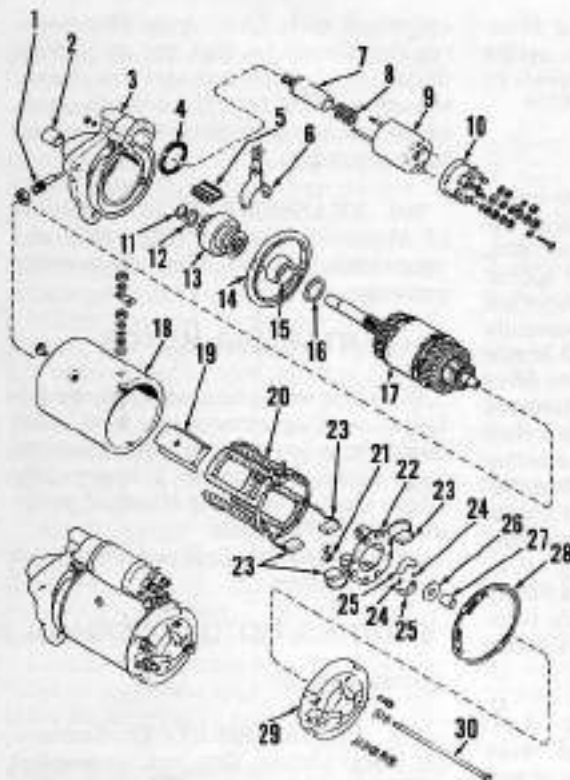
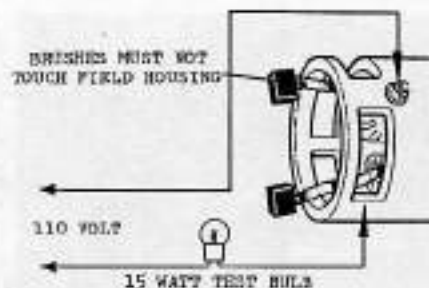
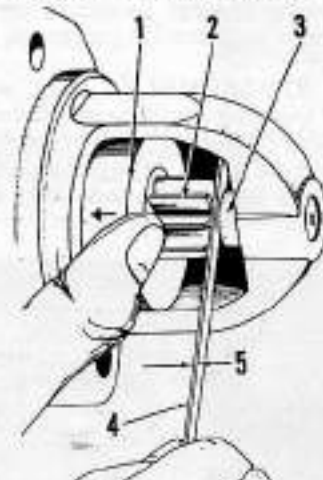

Fig. 110—Exploded view of typical Lucas starter assembly. Note construction may vary slightly according to model, but basic design remains the same.
Fig. 112—Brushes must not touch housing and insulation at terminals must be good when checking field coils. Refer to paragraph 205.
Fig. 114—Measure pinion clearance with a feeler gage as shown. Refer to paragraph 209 for specifications.
**204. DISASSEMBLY.** To disassemble Lucas starter, first remove solenoid assembly and copper link connecting solenoid to starter. Remove through-bolts (30—Fig. 110) and end cover (29). Use caution to avoid losing brake shoes (25) and springs (24). Remove brushes (23) from brush boxes and remove brush holder (22). Inspect brush springs (21) and renew as needed. Remove field housing (18). Remove eccentric pin (1) and remove drive end housing (3). Push thrust collar (12) off of snap ring (11) and remove snap ring and thrust collar. Remove starter drive (13), intermediate support (14) and shims (16). Note thickness and number of shims (16) for reassembly. Inspect bushings (2, 15 and 27) for excessive wear or damage. Renew as required. Soak new bushings in oil for 24 hours prior to installation.
**207. FIELD COIL TEST.** Field coil insulation may be tested using a 110 volt, 15 watt AC current test light connected as shown in Fig. 112. Brushes must not touch field housing and power terminal insulation must not allow voltage to short to housing. If test light comes on and brushes are not touching housing and insulation is good at power terminal, there is a short between field coils (20—Fig. 110) and field housing (18). Repair or renew as necessary.
Armature end play must be 0.127-0.635 mm (0.005-0.025 inch) and is controlled by thickness of shims (16—Fig. 110) between intermediate support and armature core.
Pinion clearance is set by connecting a 6 volt battery to solenoid on assembled starter to activate solenoid. Push back lightly on starter drive clutch (1—Fig. 114) to remove any free play. Measure with a feeler gage as shown in Fig. 114. Turn pivot bolt (1—Fig. 110) to adjust clearance and when set, lock pivot bolt in place with locknut. Standard duty starter pinion clearance must be 0.127-0.381 mm (0.005-0.015 inch) and heavy duty starter pinion clearance is 0.127-1.143 mm (0.005-0.045 inch).